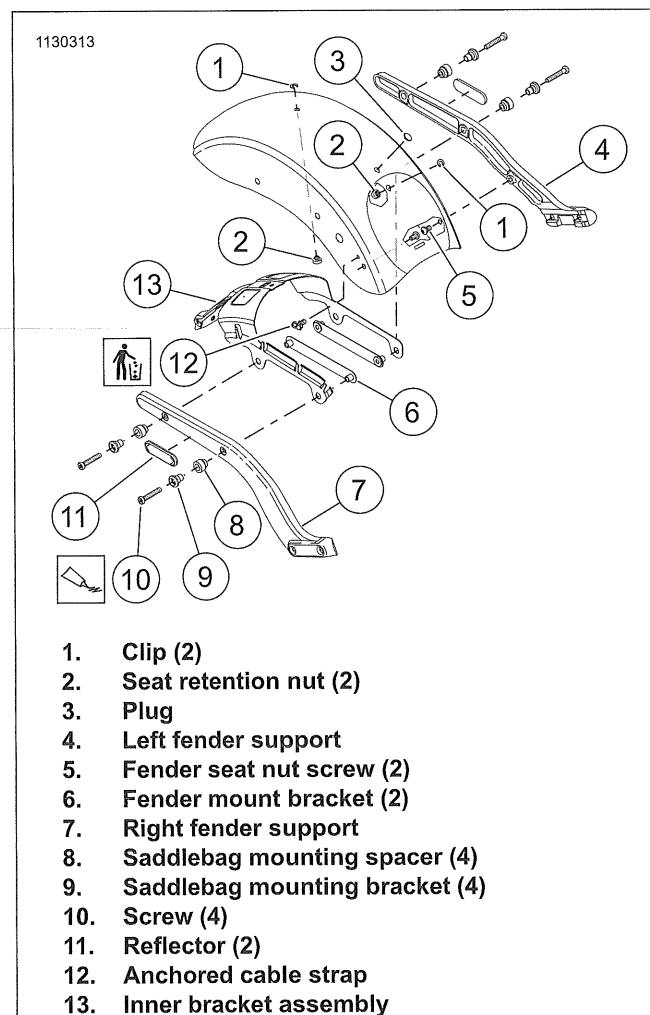

Figure 3-122. Chopped Fender: License Plate Bracket With Lights
1. See Figure 3-122. Remove rear fender support.
- a. Remove screws (10).
- b. Remove saddlebag mounting bracket (9) and spacer (8).
- c. Remove fender mount bracket (6).
- e. Remove inner bracket assembly (13).
2. Discard cable strap (12).
- Hold nut (2).
- Remove clip (1).
4. Disassemble inner bracket assembly (13).
1. See Figure 3-122. Install reflectors (11).
2. Assemble inner bracket assembly (13).
- Position nut (2).